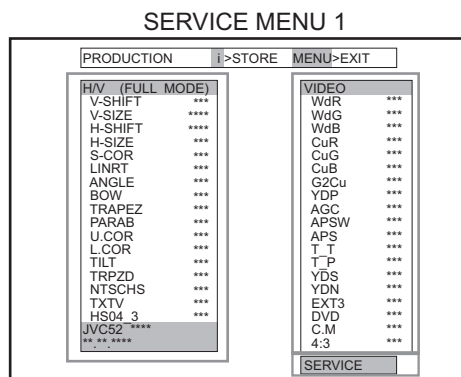

Fig.1
- (1) Press the **INFORMATION** key and **MUTING** key simultaneously, and the SERVICE MENU 1 screen (Fig.1) will be displayed.